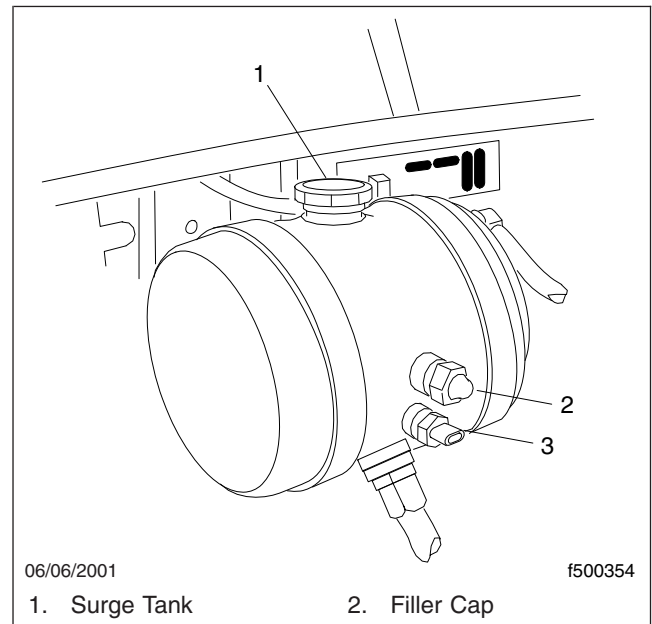

Fig. 23.9, Steel Surge Tank
- **Steel Surge Tank:** Ensure coolant is visible in the sight glass. See Fig. 23.9. If coolant is not visible, add a 50/50 mixture of water and antifreeze to the surge tank until coolant is visible in the sight glass. Start the